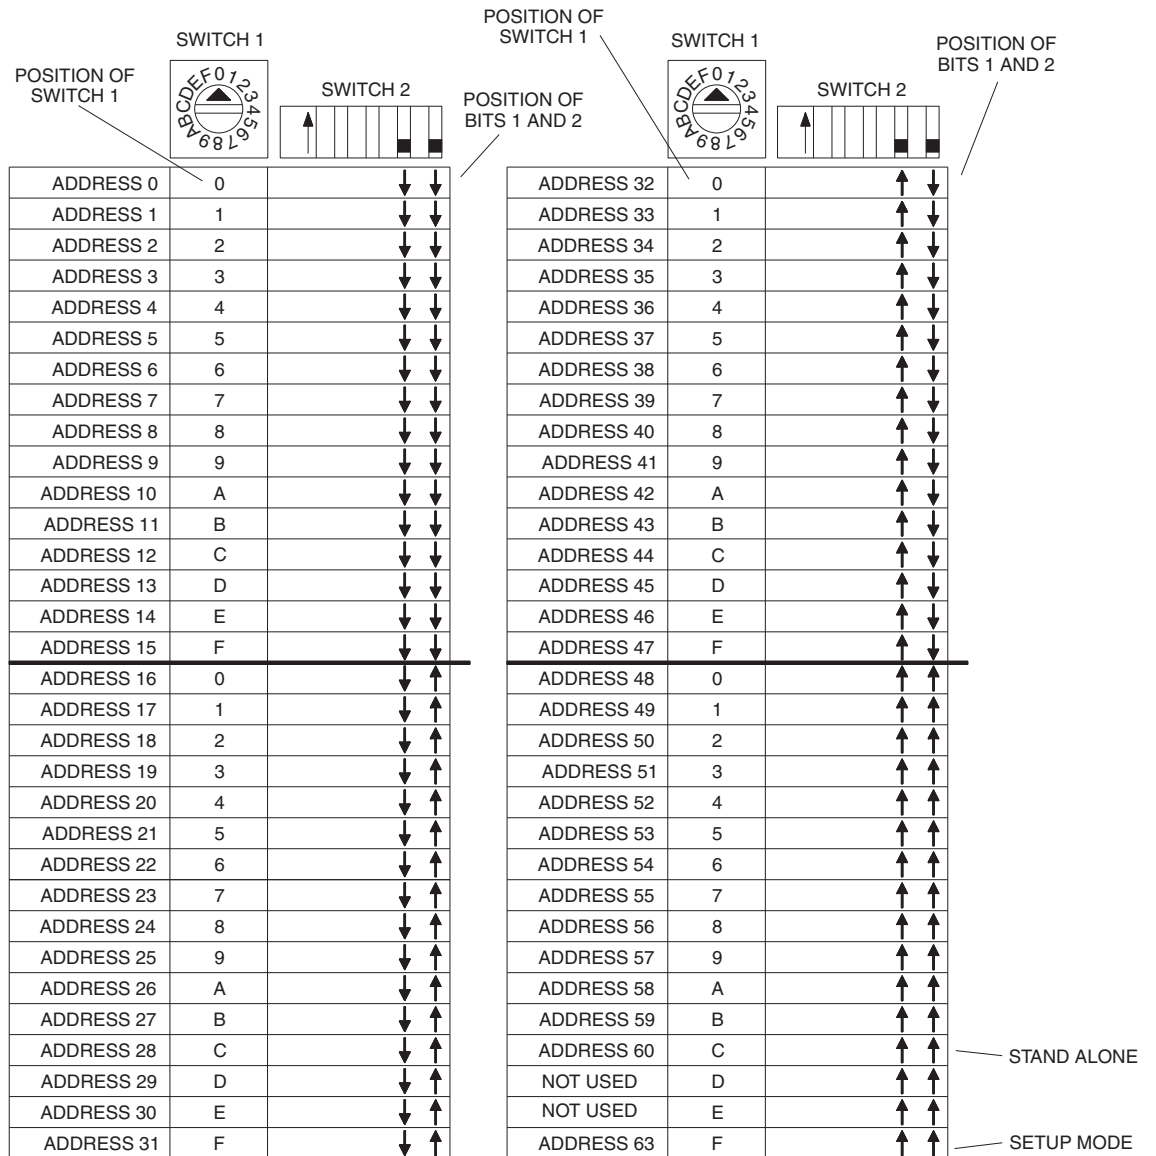

Figure 8 - SYRS Addresses
Select and set a unique network address for each station. For addresses 0 through 15 use SWITCH 1. For addresses 16 through 59 use SWITCHES 1 and 2. The address equals the value of SWITCH 1 added to the value of SWITCH 2. See *Figure 8* for the switch setting of a specific address.
2. Set SWITCH 1 to "F" and SWITCH 2, bits 1 & 2, to the UP (ON) position. (network address "63") See Figures 8 for details.
2. Verify the A4 network address for each station by checking Switches 1 and 2. See *Figure 8* for switch settings of a specific address.